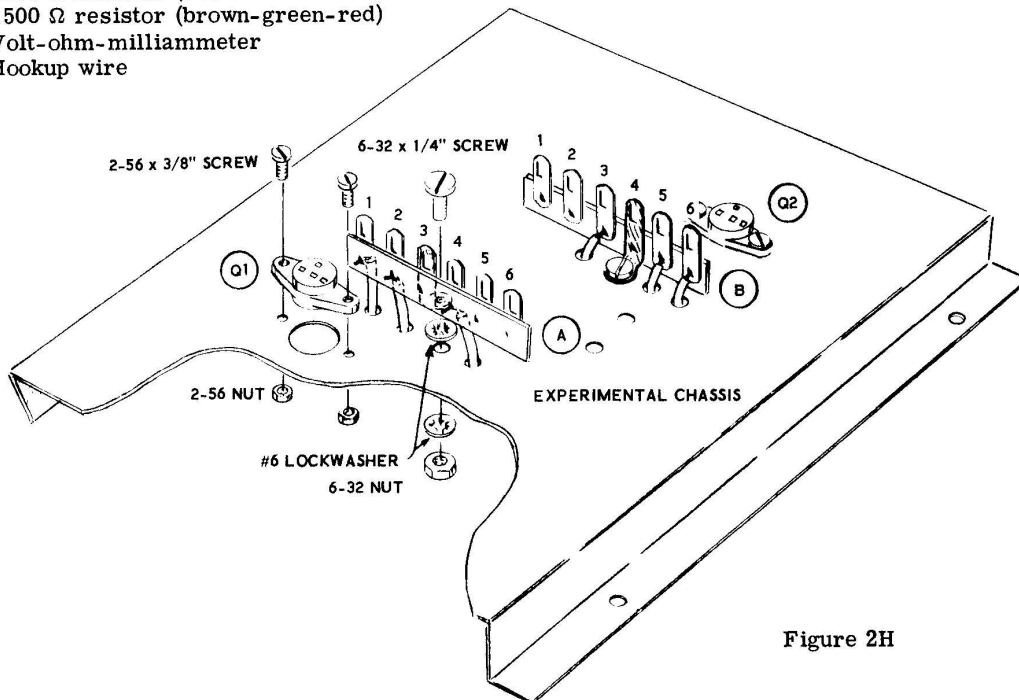

Figure 2H
Refer to Figure 2H for the following steps.
- ( ) Fasten the two 6-lug terminal strips to the experimental chassis as they are shown in Figure 2H, using 6-32 x 1/4" screws, #6 lockwashers, and 6-32 nuts. Be sure the chassis faces in the direction shown in Figure 2H.
- ( ) Install transistor sockets Q1 and Q2 from above the chassis, using 2-56 x 3/8" screws and 2-56 nuts. Be sure that the lugs of each transistor socket face as shown in Figure 2H.